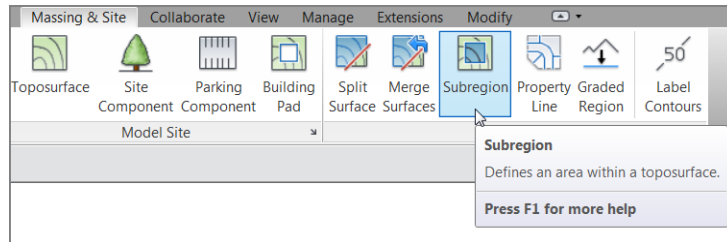

FIGURE 18.11: The Subregion button
3. On the Massing & Site tab, click the Subregion button, as shown in Figure 18.11.